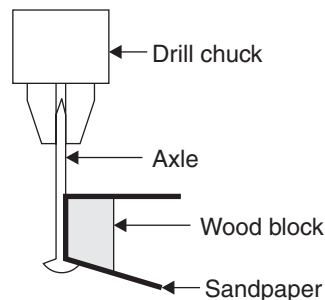

Figure 5. Sanding the axle.
- Find or make a long thin block of wood, cut square and small enough to fit between the head of the axle and the chuck of the drill. Cut one edge of the block at a 5 degree angle. For the next three sanding steps sand paper is wrapped around the wood to provide flats surfaces for sanding, see figure 5.